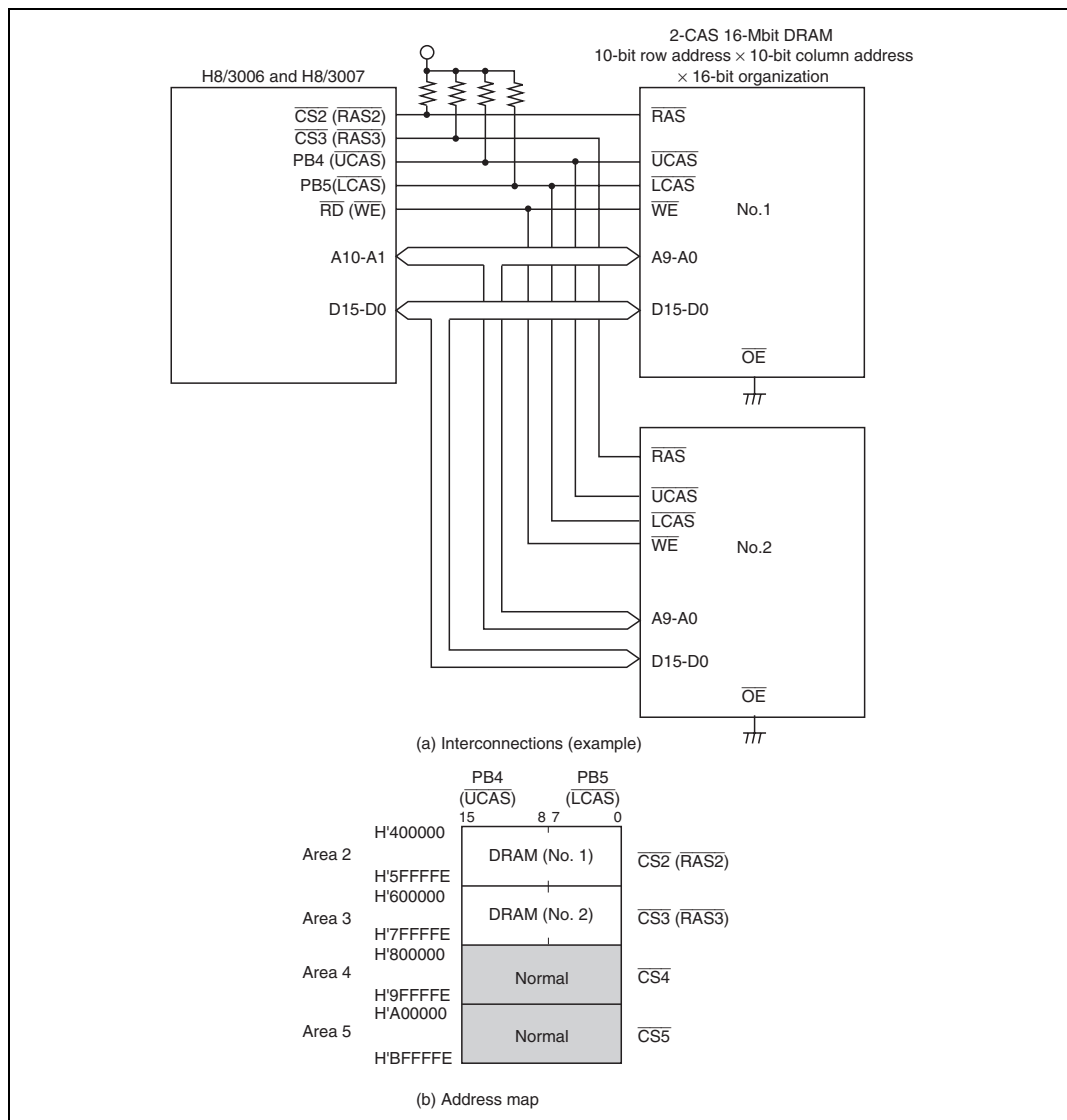

Figure 6.29 Interconnections and Address Map for 2-CAS 16-Mbit DRAMs with $\times 16$ -Bit Organization
- Figure 6.29 shows typical interconnections when using two 2-CAS type 16-Mbit DRAMs using a $\times 16$ -bit organization, and the corresponding address map. The DRAMs used in this example are of the 10-bit row address $\times$ 10-bit column address type. Up to four DRAMs can be connected by designating areas 2 to 5 as DRAM space.